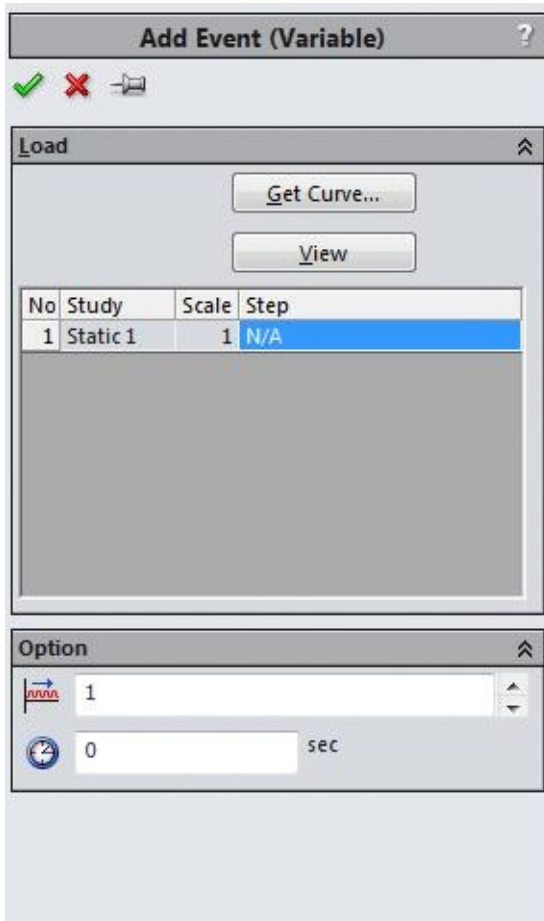

Figure-4. Add Event PropertyManager
- Click on the **Add Event** tool. The **Add Event (Variable) PropertyManager** will be displayed; refer to Figure-4.